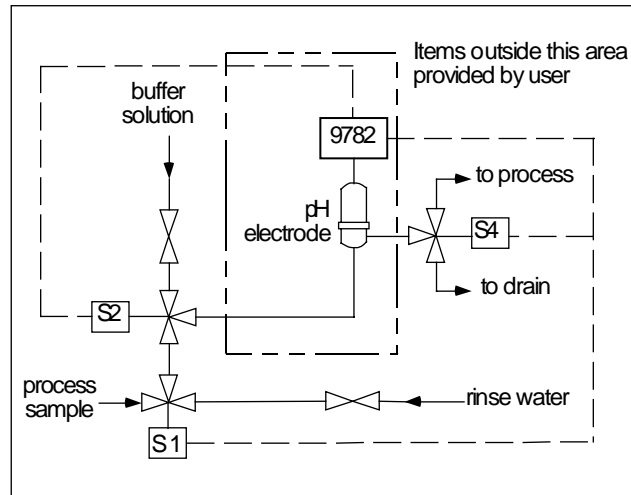
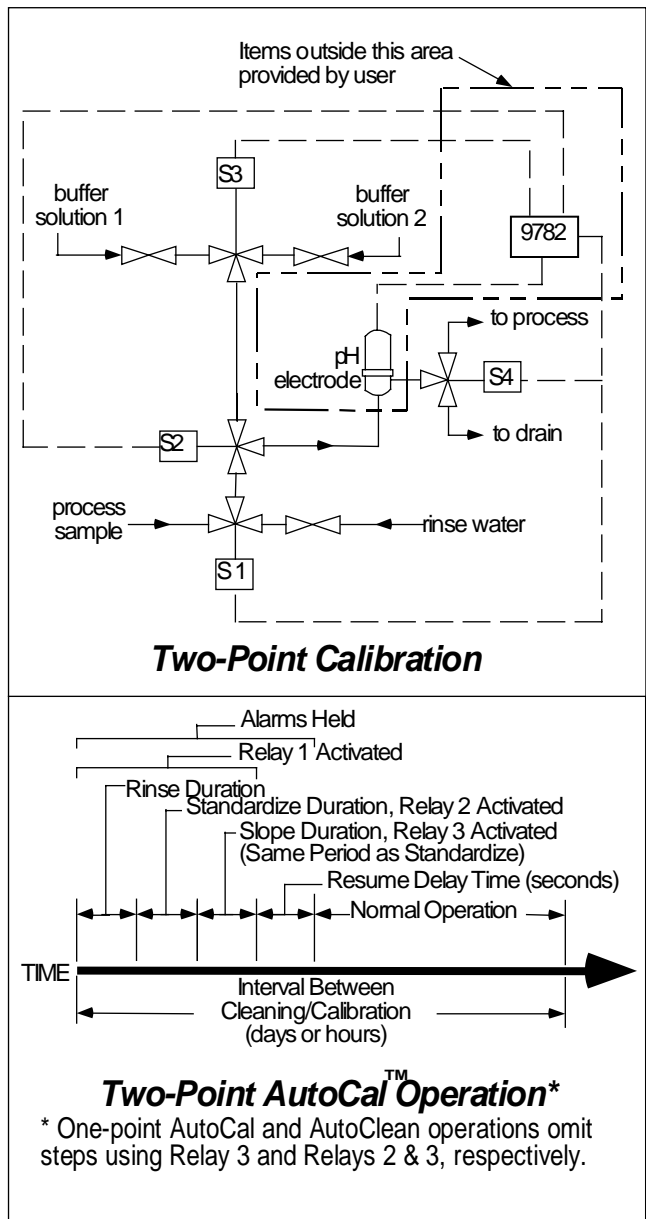

Figure 7-2 Rinse and One-Point Calibration
Figure 7-3 Two-Point AutoCal Operation
- 2 In preparation for the calibration, Relay 1 activates 3-way solenoid valve S1 (see Figure 7-2) to direct rinsing fluid to the electrodes for the configured rinse duration (1 to 1999 seconds). If the measured sample is normally returned to the process but quantities of rinsing fluid cannot be tolerated there, use an additional 3-way solenoid valve S4. It is activated simultaneously with S1 to divert the discharge to drain.
Make the process connections as shown in Figure 7-2 or Figure 7-3. Materials and components should be carefully selected for chemical resistance to process and buffer solutions at anticipated temperatures. Be sure that valves and fittings have sufficient pressure ratings to withstand pressure peaks which will occur when process flow is blocked.